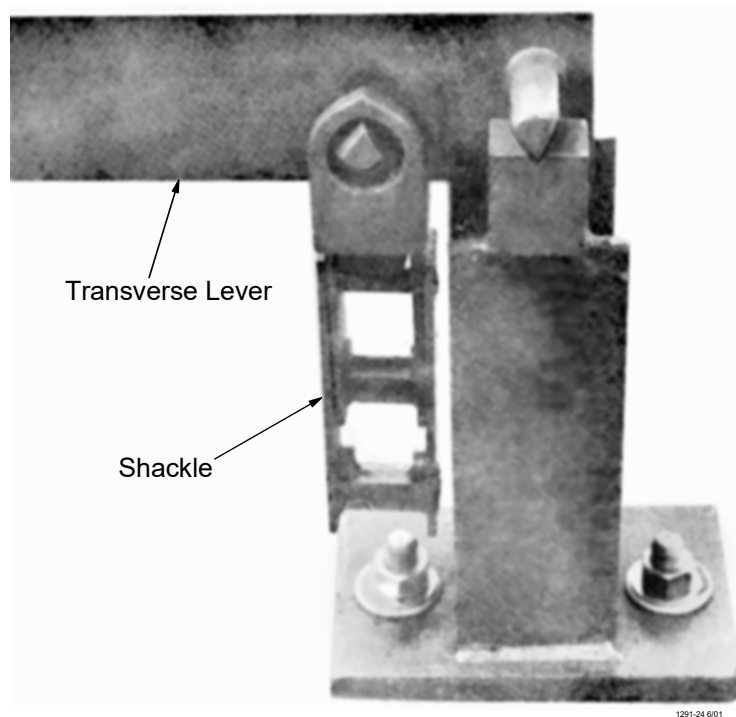

Figure 14. Transverse Level Assembly with the Shackle on the Transverse Stand Assembly
10. Install the Right and Left Main Levers with their Fulcrum pivots on the bearings of the Lower Main Stands. The Main Lever's Tip Pivots rest directly above each other in the shackle. See **Figure 14 and 15.**